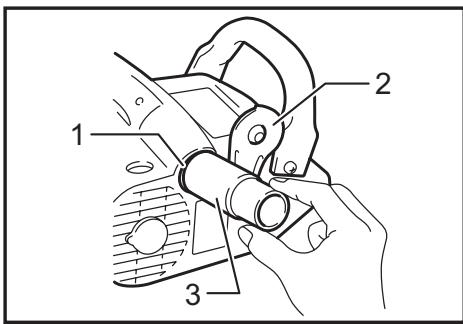

Fig.5
► Fig.5: 1. Dust port 2. Cover plate 3. Joint